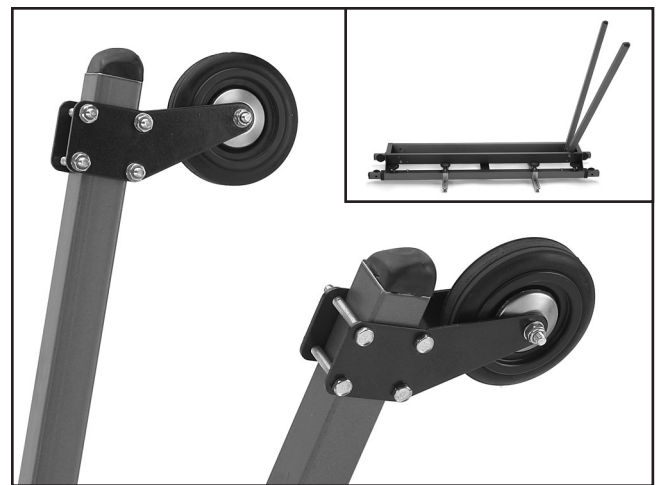

Figure 3. Wheel assembly.
1. Lay the work stand upside down and unfold the top set of legs (inset in **Figure 3**). Make sure the locking pins snap into place.
2. Place a wheel bracket on either side of the wheel and thread an M8-1.25 x 45 hex bolt through the assembly (**Figure 3**), then secure it with a flat washer and a lock nut.
3. Place the wheel brackets on either side of the stand leg and thread M6-1 x 45 hex bolts through the wheel brackets (**Figure 3**) and loosely secure them with flat washers and hex bolts.